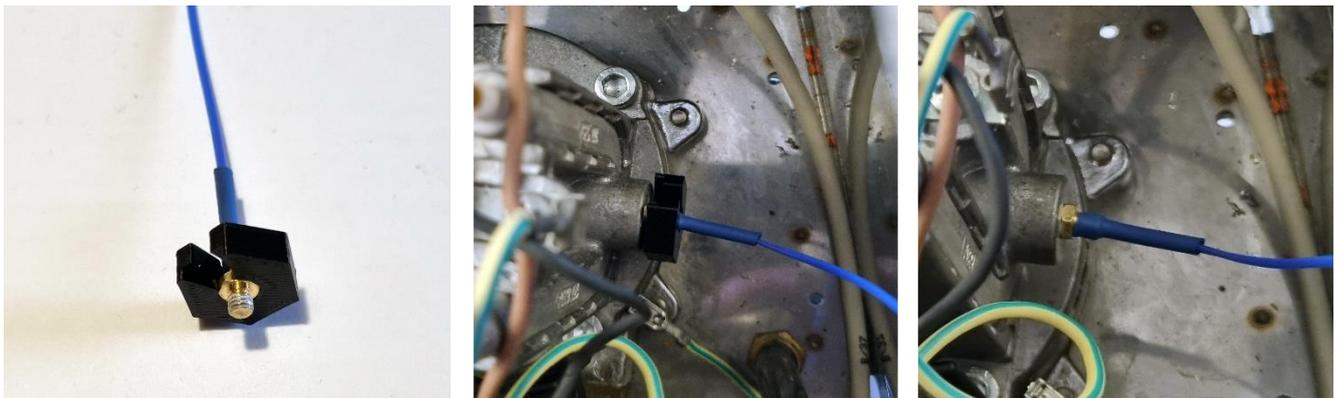
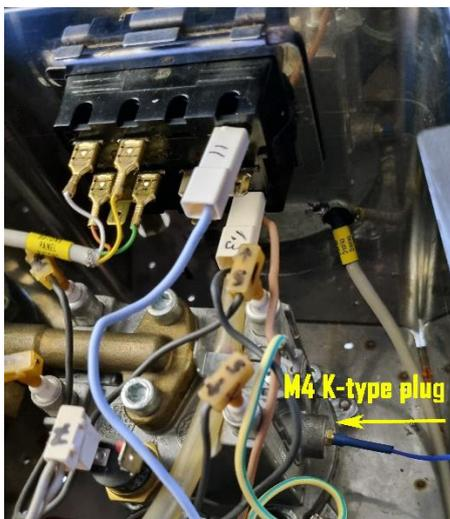
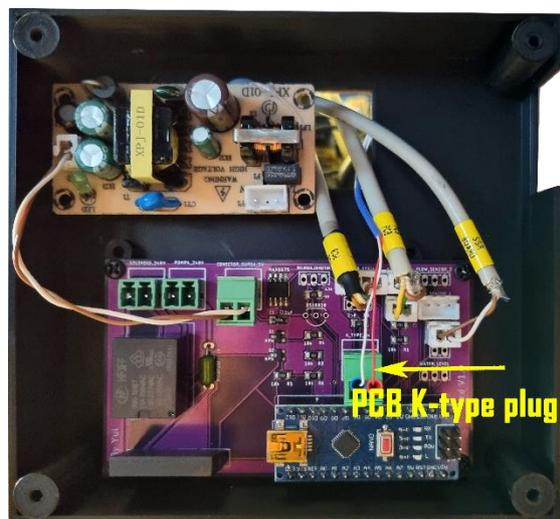

Fig. 8.1
Fig. 8.2
Fig. 8.3
- Take the type-k temperature sensor from the package and make connection between the main board and the temperature sensor hole left empty after the removal of the original sensor. Use the provided 3D printed tool for help with the m4 plug of the sensor (fig. 8.1) . First screw the M4 sensor plug then pose the cable to main board case and plug it in.(fig. 8.2)(fig. 8.3)